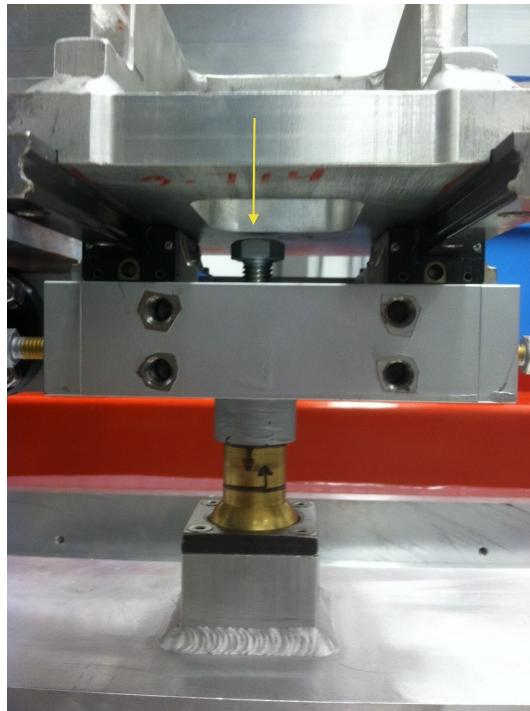

Figure 5
5. **Warning:** Make sure that the top vertical screw has clearance to move front-to-back. See Fig. 5, don't be in the situation that the screw is in the hole and not down far enough to travel out of the hole.